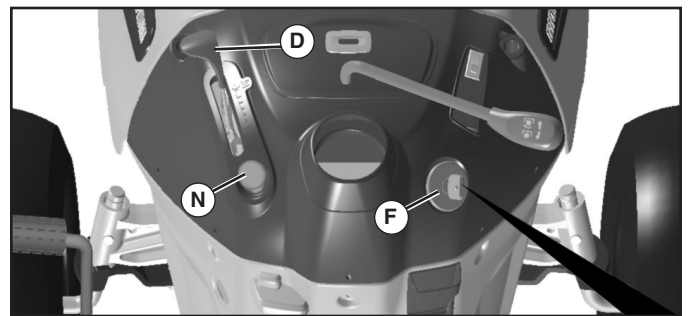

FIG. 7
TO USE THROTTLE CONTROL (D) (See Fig. 7)
TO USE CHOKE CONTROL (See Fig. 7)